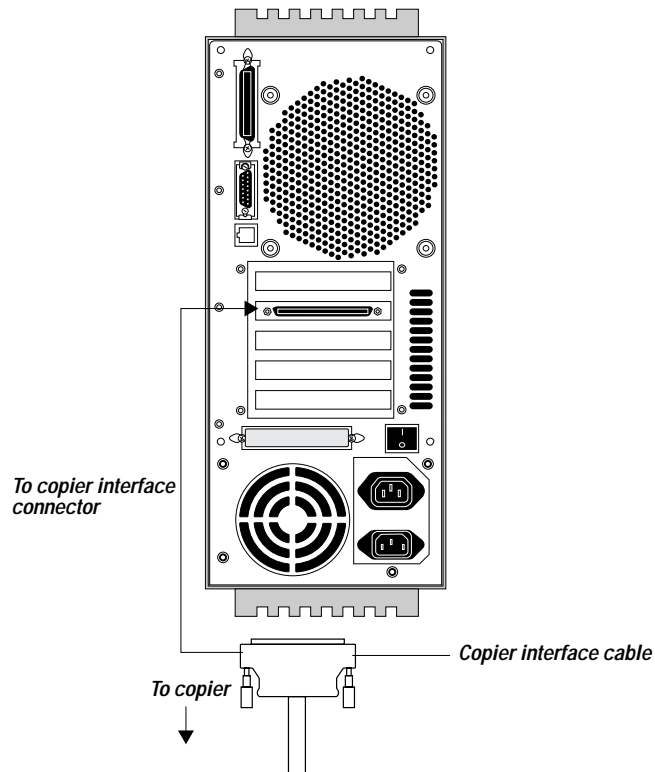

Figure 3-4 Copier interface cable connection
6. *Connect the other end of the cable to the Fiery XJ BP100 copier interface connector (see Figure 3-4 on page 3-6).*